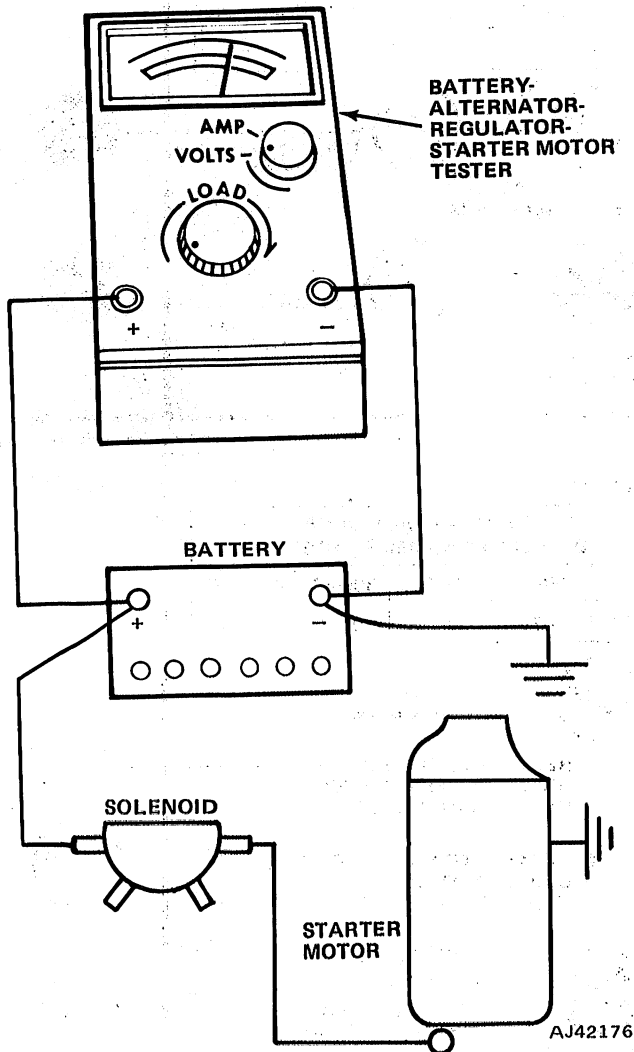

Fig. 1F-14 Starter Motor Full-Load Current Test
(4) Connect battery-alternator-starter motor tester leads as depicted in figure 1F-14. Operate remote control starting switch and note voltage indicated on voltmeter while starter motor is rotating engine.
(5) Release remote control starting switch.
(6) Turn load control knob toward INCREASE (clockwise) until voltmeter indication matches that obtained when starter motor was rotating engine.